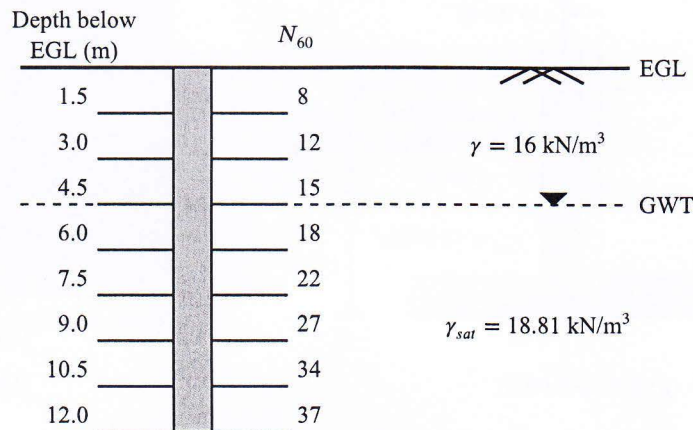

Figure 1: for QUESTION 1(c)
- (c) The following figure (Fig. 1) shows the corrected SPT values, (N_{60}) for field conditions in sand. Determine the corrected SPT values, $(N_1)_{60}$ due to overburden pressure. Also determine the variation of internal friction angle, ϕ' . (8)